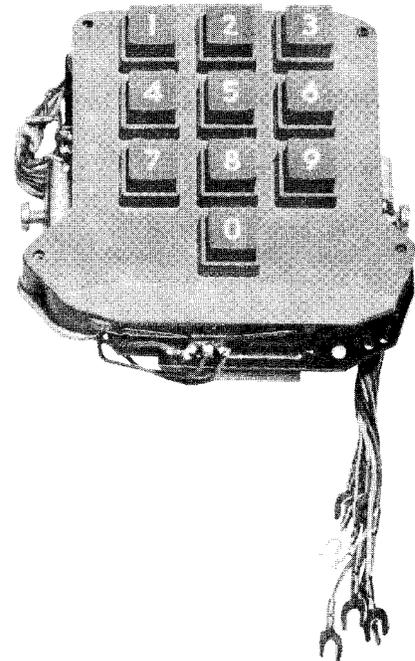
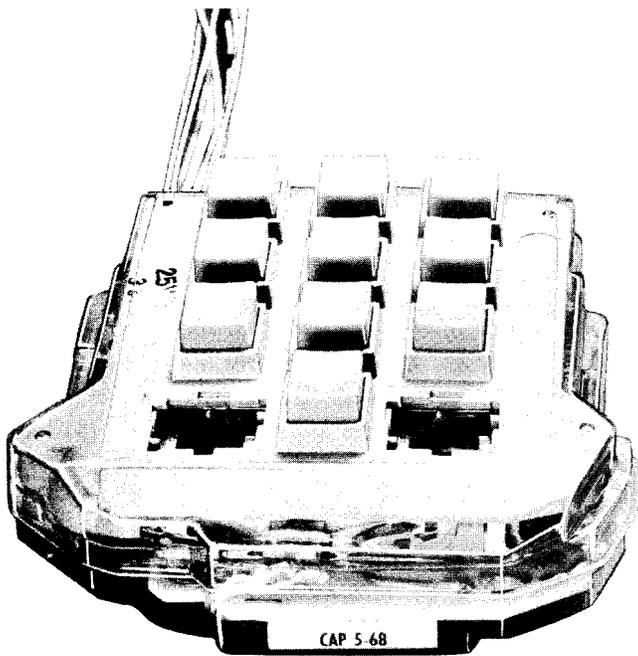

Fig. 1—10-Button 25-Type Nonconvertible Dial, Front View
Fig. 3—10-Button 25-Type Convertible Dial with Dust Cover, Front View
2.01 The 25-type TOUCH-TONE® dial is a transistorized multifrequency dialing device equipped with pushbuttons having numbers or numbers and letters. Earlier versions of this dial have 10 buttons only (Fig. 1 and 2). Currently manufactured dials are convertible to 12-button operation by the addition of two snap-in special service buttons (Fig. 3 and 4).